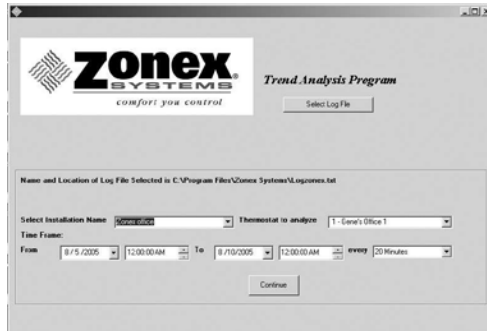

Fig. 32
- When the file is retrieved, use the **drop down box** to select your installation name, thermostat number, and date and time range; then click the **Continue** button (see Fig. 32). Multiple buildings can be accessed via the trending program, and files can be saved under various names.